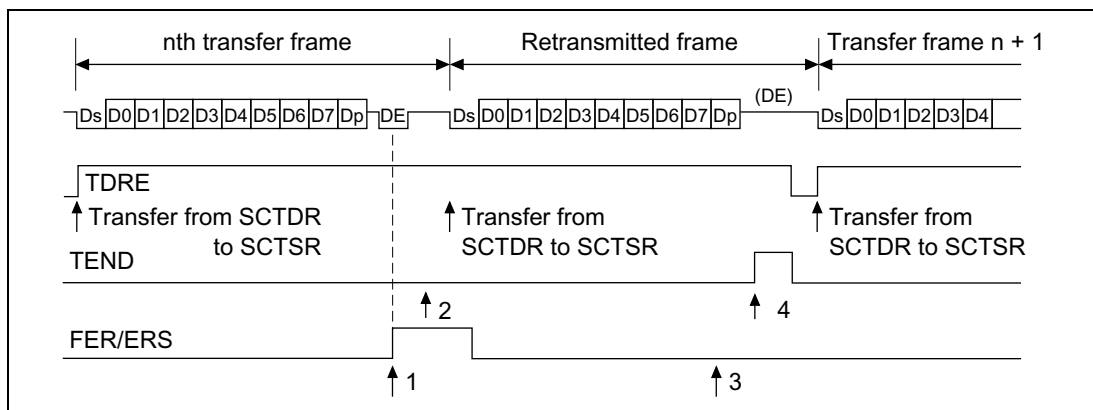

**Figure 18.10 Retransmission in SCI Transmit Mode**
**Retransmission by the SCI in Transmit Mode:** Figure 18.10 shows the retransmission operation in the SCI transmit mode.